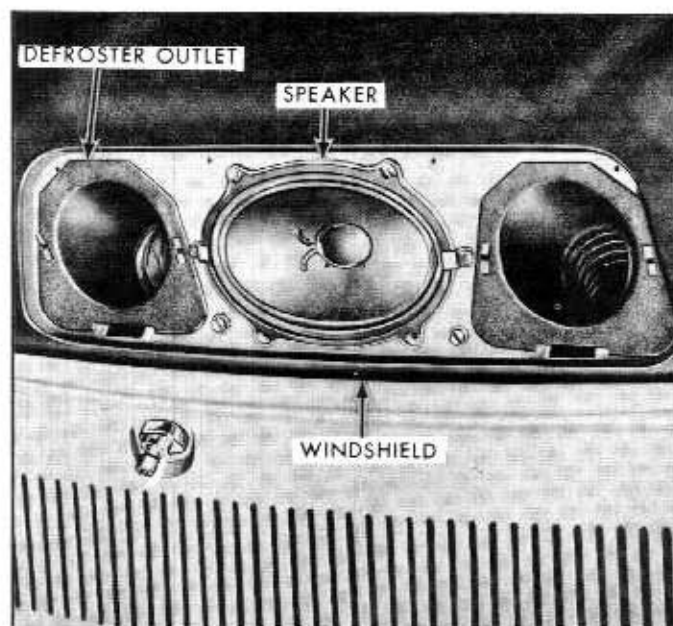

Fig. 12-5—Radio Speaker Mounting—(60C-7828)
- speaker from the instrument panel. See figure 12-5.